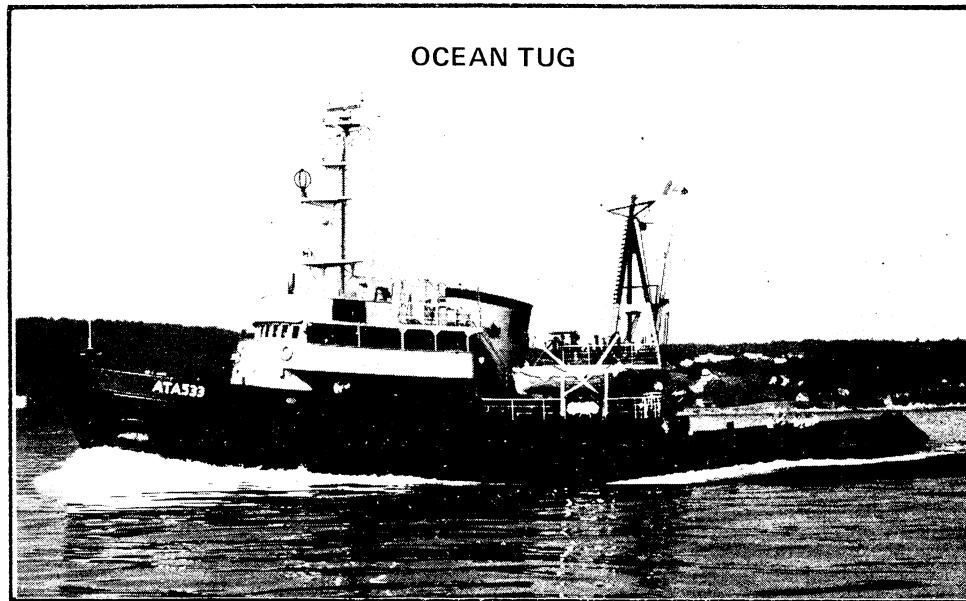

Figure 8-72 Ocean Tug
- g. **Tugs** — (See Figures 8-72 and 8-73.) Tugs are designed to tow or push other vessels. They must be used to assist other vessels in crowded harbours (harbour tugs), to tow barges in rivers, canals and coastal waters (tow-boats), or to rescue deep-sea vessels damaged by storm or mechanical breakdown (ocean salvage tugs). They are distinguished by powerful, stubby lines, by marked sheer with high bows and a low stern, and often by the presence of heavy matting in the bows.